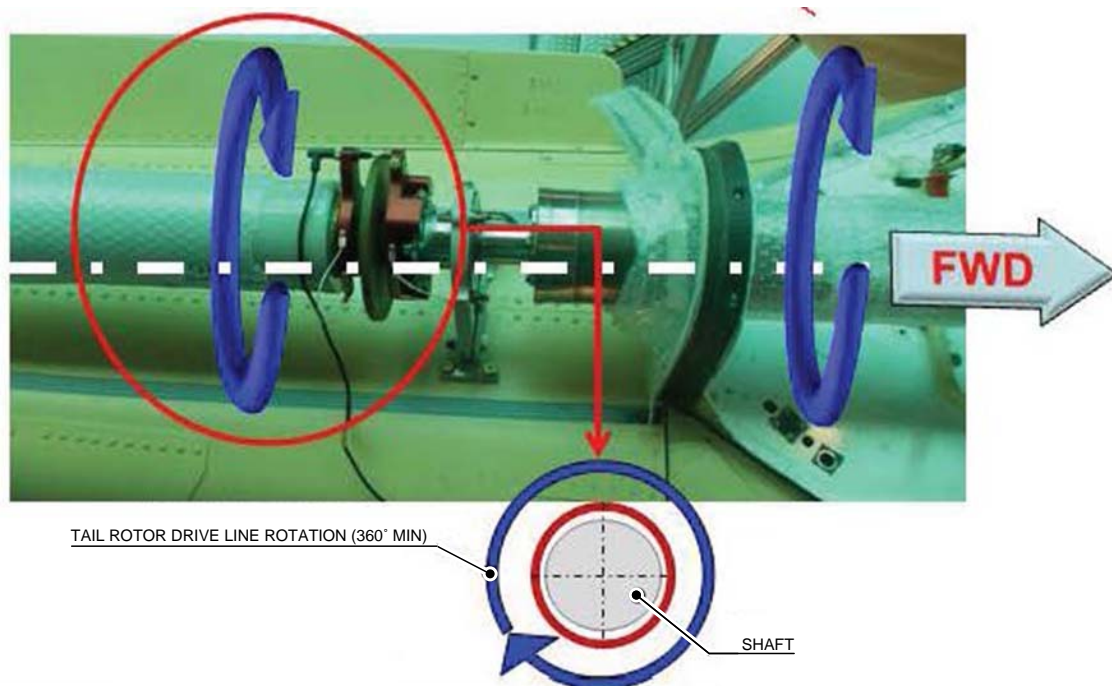

Figure B11
- 4.9 With reference to Figure B11, rotate the tail drive line of 360° minimum, and record the maximum TIR value.